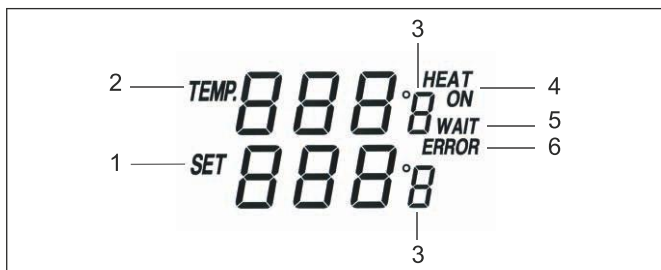

Fig.11: Anzeige LC-Display
*If the soldering station is operated without or with a defective soldering iron a warning sound can be heard and the display will flash „ERROR“. See Fig. 11.*
1. Switch on the soldering station with the ON/OFF switch (2).
2. Press the °C / °F button (9) to change the scale from °C to °F or vice versa.
*The selected unit is shown in the display (3).*
3. Select the required temperature by means of the temperature preselect buttons „200 °C“, „300 °C“ and „400 °C“ (10) and the UP/DOWN buttons (4).
*E.g. 300 °C: After pressing the „300 °C“ button the selected temperature is displayed as „SET 300°C“. The upper value to the right of „Temp.“ climbs to 300 °C. Meanwhile, at the right side of the display „HEAT ON“ and „WAIT“ will be displayed until the set temperature has been reached. See Fig. 11.*
*With the „+Up“ and „-DOWN“ button (4) you can set the temperatures by a briefly press with a resolution of 1 °C or 2°F. If you hold the button, the display will change in steps of 10 °C or 18 °F. When the desired values is reached, just release the button.*